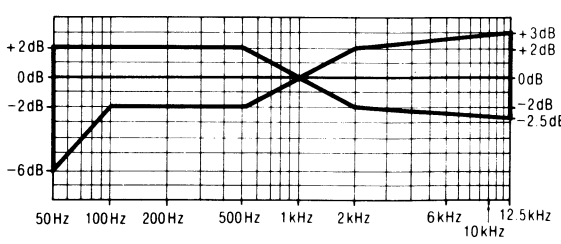
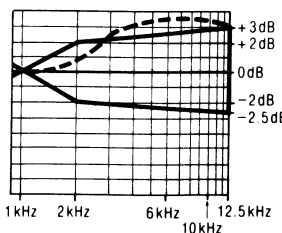
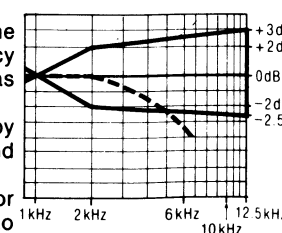

Fig. 11
Fig. 12
Fig. 13
- Playback the signals recorded in step 6, and check if the frequency response curve is within the limits shown in the overall frequency response chart for normal tapes (fig. 11).
When the curve exceeds the overall specified frequency response chart (fig. 11) as shown in fig. 12.
- Repeat steps 5 and 6 for confirmation (Proceed to steps 7, 8 and 9 if the curve is now within the charted specifications as shown fig. 11.)
- If the curve still exceeds the specifications (fig. 11), increase bias current further and repeat steps 5 and 6.
When the curve falls below the overall specified frequency response chart (fig. 11) as shown in fig. 13.
- If the curve still falls below the charted specifications (fig. 11), reduce bias current further and repeat steps 5 and 6.